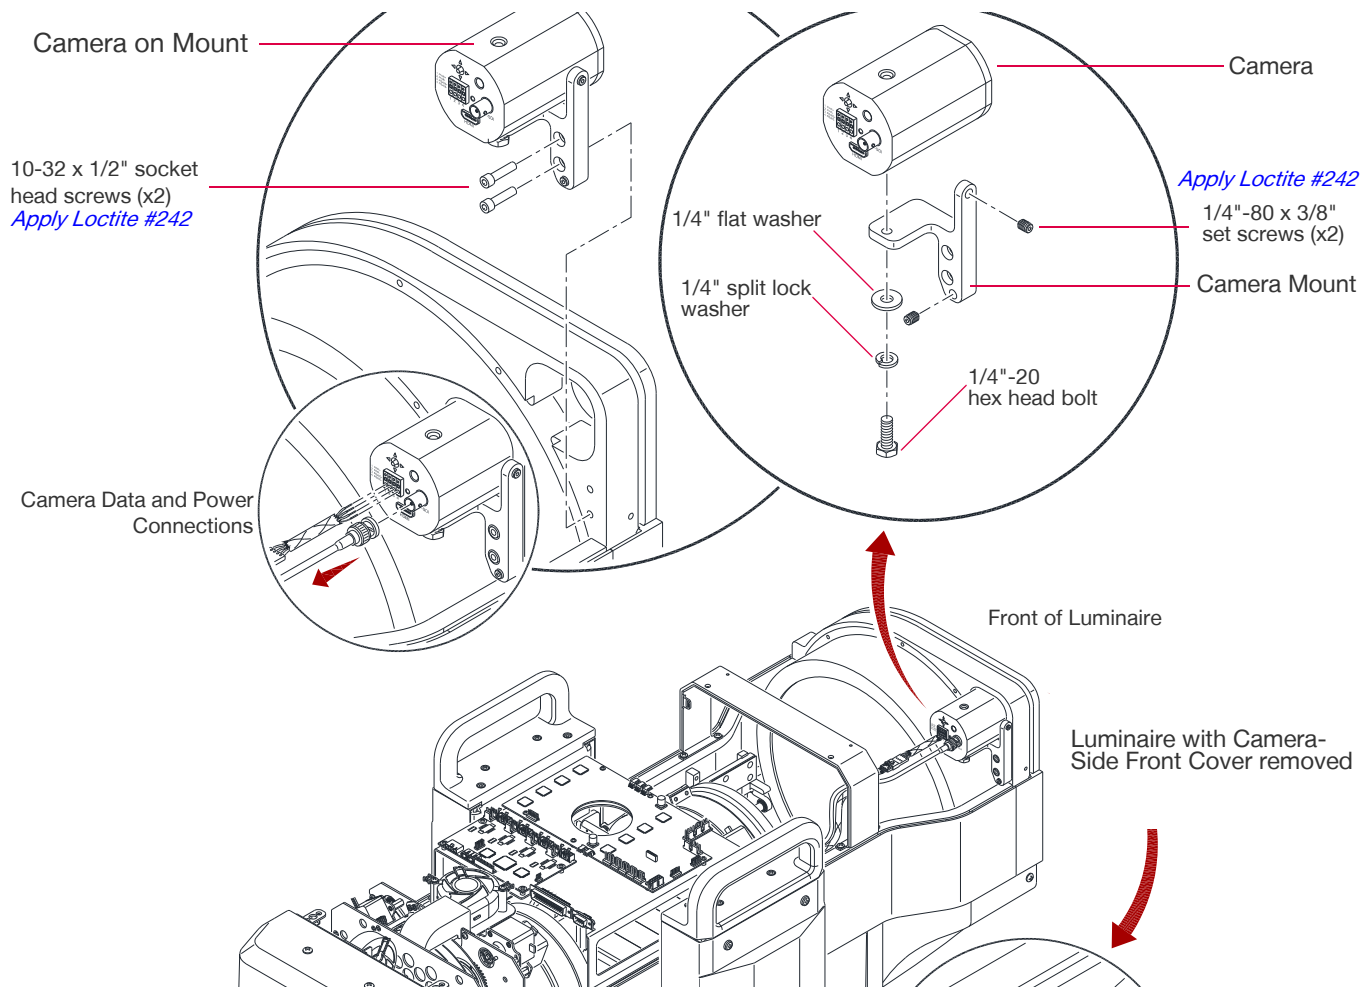

Figure 3-20: Removing the GCLT Camera and Mount
(**Figure 3-20**)
- Step 6. Reinstall the camera mount to the camera, then reinstall the camera. (**Figure 3-20**).